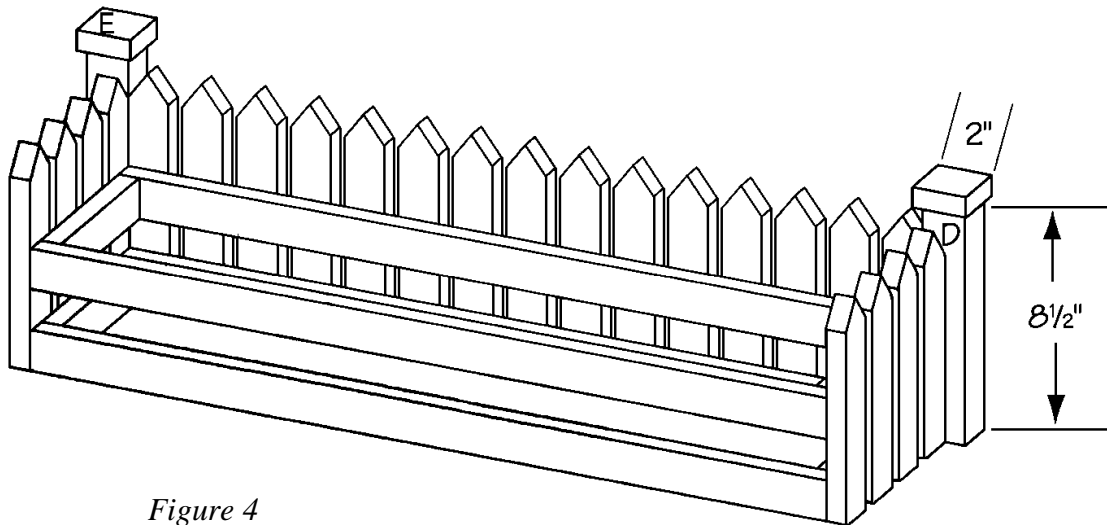

Figure 4
1. Cut two posts (D) from 2 x 2 pine, each measuring 8-1/2 inches long.
2. Cut two post caps (E) from 1 x 4 pine, each measuring 2 x 2 inches.
3. Center one post cap (E) over the end of one post (D). Apply glue to the meeting surfaces and nail through the post cap (E) into the end of the post (D) using two 1-1/4-inch-long nails.
4. Repeat Step 3 to attach the remaining post cap (E) to the second post (D).
5. Fit the posts on each end of the window box, filling in the exposed corner between the side and front pickets (C) as shown in *Figure 4*. Screw through the inside corner of the support assemblies into the post (D) using a 2" screw on each joint.